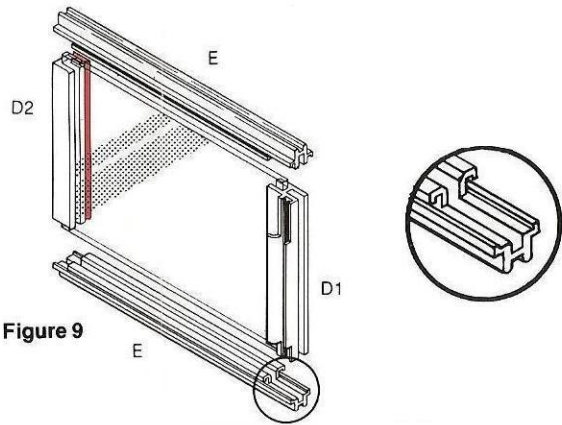

Figure 9
- g) Remove the seals. Mark and cut a notch from each end to fit round the vertical glass carriers (Figure 9). Notch back to, but do not remove the lips at the base of the seal slot (Inset Figure 9).